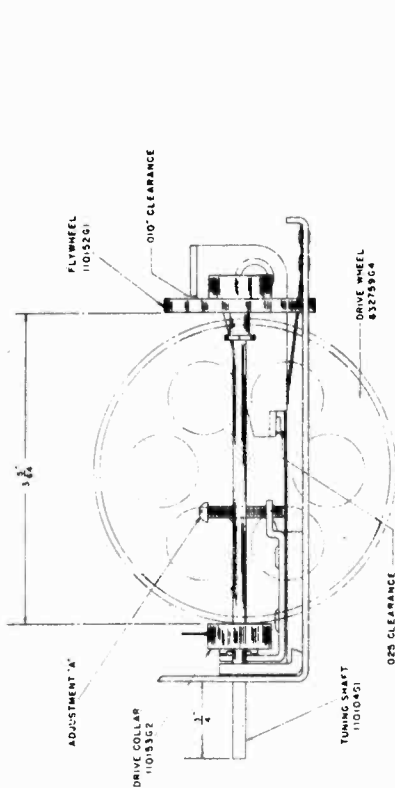
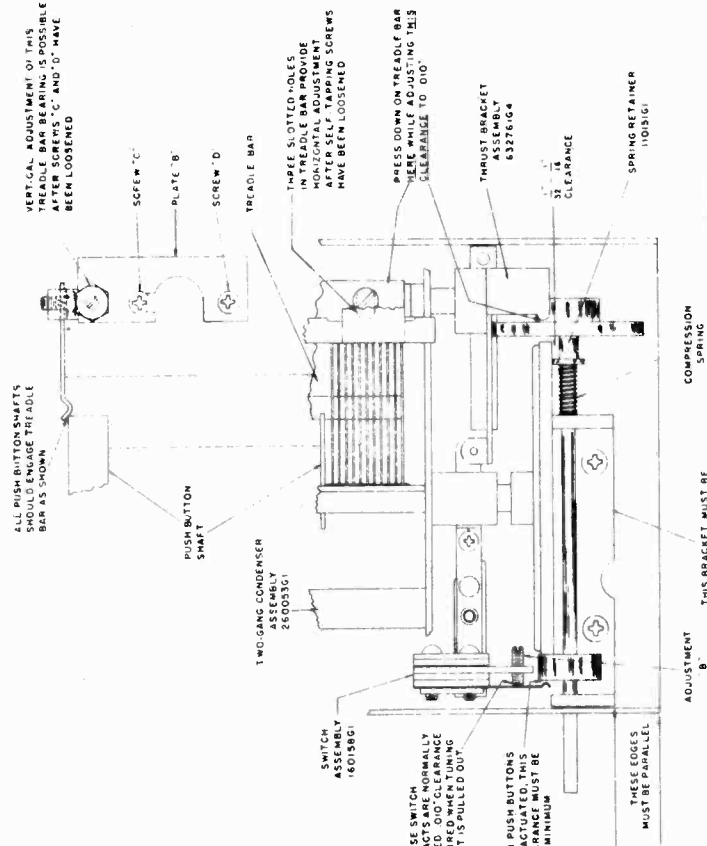

FIGURE 2
FIGURE 3
Whenever any of the mechanical parts in the condenser gang drive assembly require replacement due to rough handling or for any other reason, it is extremely important that clearances and adjustments shown on Figures 2 and 3 are affected; otherwise the tuning mechanism will be sluggish or it may slip during operation.
1. Assemble the Tuning Shaft, Drive Collar, Compression Spring, Spring Retainer and Flywheel in the manner shown on Figure 3. Note that the Tuning Shaft must extend $\frac{1}{4}$ " from the front of the assembly and that the spacing between the rear of the Drive Collar and the front of the Flywheel must be 3.564". Any excess length in the Tuning Shaft may extend beyond the rear of the Flywheel. See Figure 2.
2. The distance between the rubber-tired Drive Wheel and the smaller diameter section of the Spring Retainer must be 1.32" to 1.16" (Figure 3). This adjustment is effected by loosening the two No. 6 Allen set screws in the Drive Wheel hub and sliding the wheel on its shaft until the required clearance is obtained. When the adjustment is completed, tighten the two screws in the hub of the Drive Wheel.
3. While pressing down on the Treadle Bar at the location shown on Figure 3, adjust the Thrust Bracket until the clearance between the rear of the Flywheel and the projection on the Thrust Bracket is .010" as shown on the diagram. To make this adjustment, loosen the two No. 6 Allen set screws (use No. 6 Allen Wrench—Magnavox Part No. 800044G2) in the hub of Thrust Bracket and rotate the bracket until the specified clearance is obtained when the push buttons are NOT actuated. Tighten the two screws securely when the adjustment is completed. Press each push button and check that the Drive Collar is pushed away from the rubber-tired Drive Wheel.
4. Next, adjust the clearance in the muting switch contacts by turning the Phillips-head screw designated Adjustment "A" on Figure 2, until the specified clearance of .025" is obtained (when the push buttons are NOT actuated.)
This can usually be accomplished by loosening the two screws designated "C" and "D" on Figure 3, and moving plate "B" in the direction required to correct this condition.